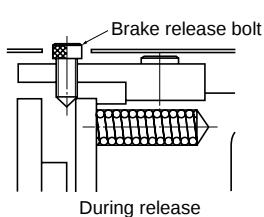

Fig.42
- (1) Remove the brake release bolts arranged diagonal to each other, and remove the spacer. Then screw in the bolts with a hexagon wrench, and the brake will be released. Be careful not to turn the brake release bolts excessively. (Check to see if the brake is released, while turning the brake release bolts.) (See Fig.42.)